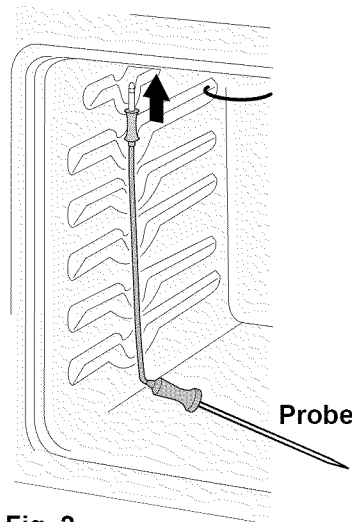

Fig. 2
- Be sure the probe is **fully** inserted into the probe receptacle. The probe will not work properly until correctly connected - Fig. 2.
2. Plug the probe COMPLETELY into the probe receptacle inside the oven -Fig. 2- and close the oven door.